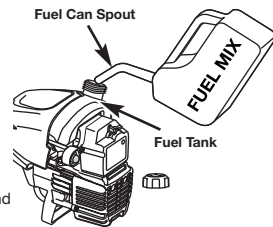

Fig. 16
- Place the gas container's spout into the fill hole on the fuel tank (Fig. 16) and fill the tank.